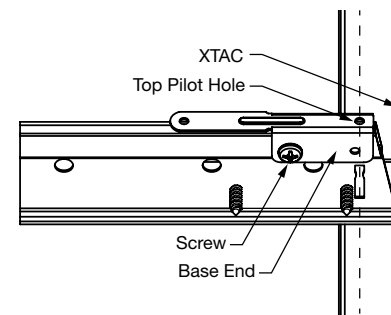

Fig 34
- Place a PAC over the bulb of the existing grid with the base side closest to the trim. Place so that the pilot hole on the top of the base end is located at the correct 6" O.C. increment to match the full-size panel dimension. (**NOTE:** With mains, the top pilot hole on the base will align directly above a rout hole). This PAC will provide a location that will act as the connection point for the intersecting grid members (**Fig 34**).